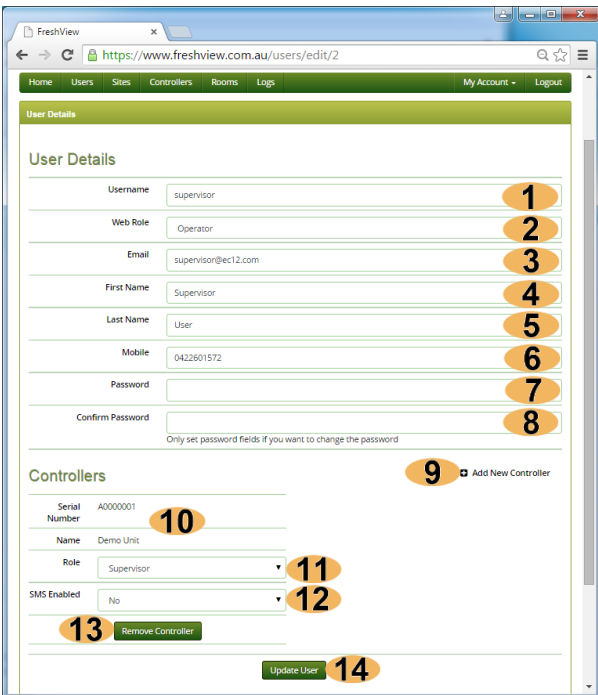

Figure 62: Add/Edit user web page.
- 7 **Add New User:** Add a new user. See *Figure 62: Add/Edit user web page*.
- 9 **Edit User:** Open the edit user page for the selected user, See *Figure 62: Add/Edit user web page*.